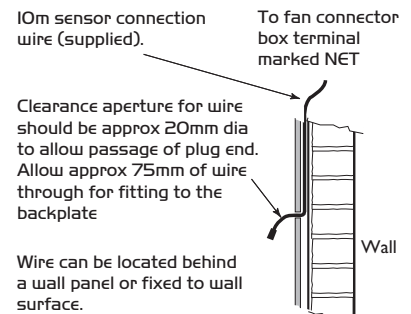

Figure 1.
- b) Select a suitable location for the sensor and arrange the cable in position. Leave approx. 75mm of the cable free at the mounting point to ease the connection of the plug. (fig. 1).